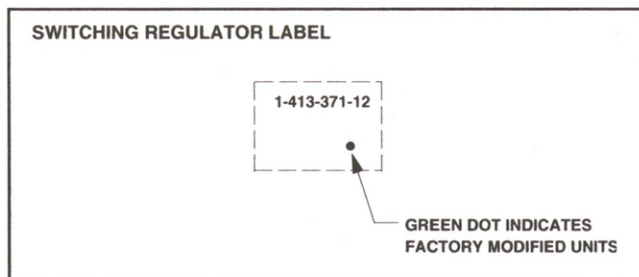

Figure 1
- Factory-modified units are identified by a green dot under the part number of the switching regulator, as shown in Figure 1.